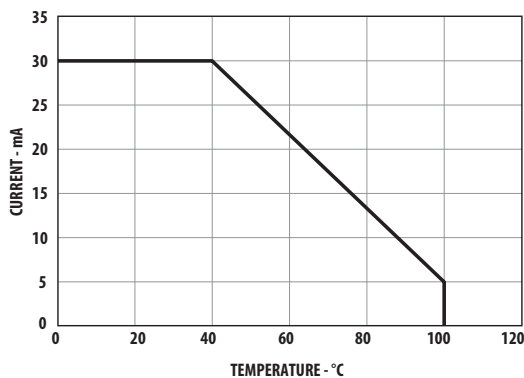

Figure 4. Maximum forward current vs. ambient temperature.
- Derate linearly as shown in Figure 4.